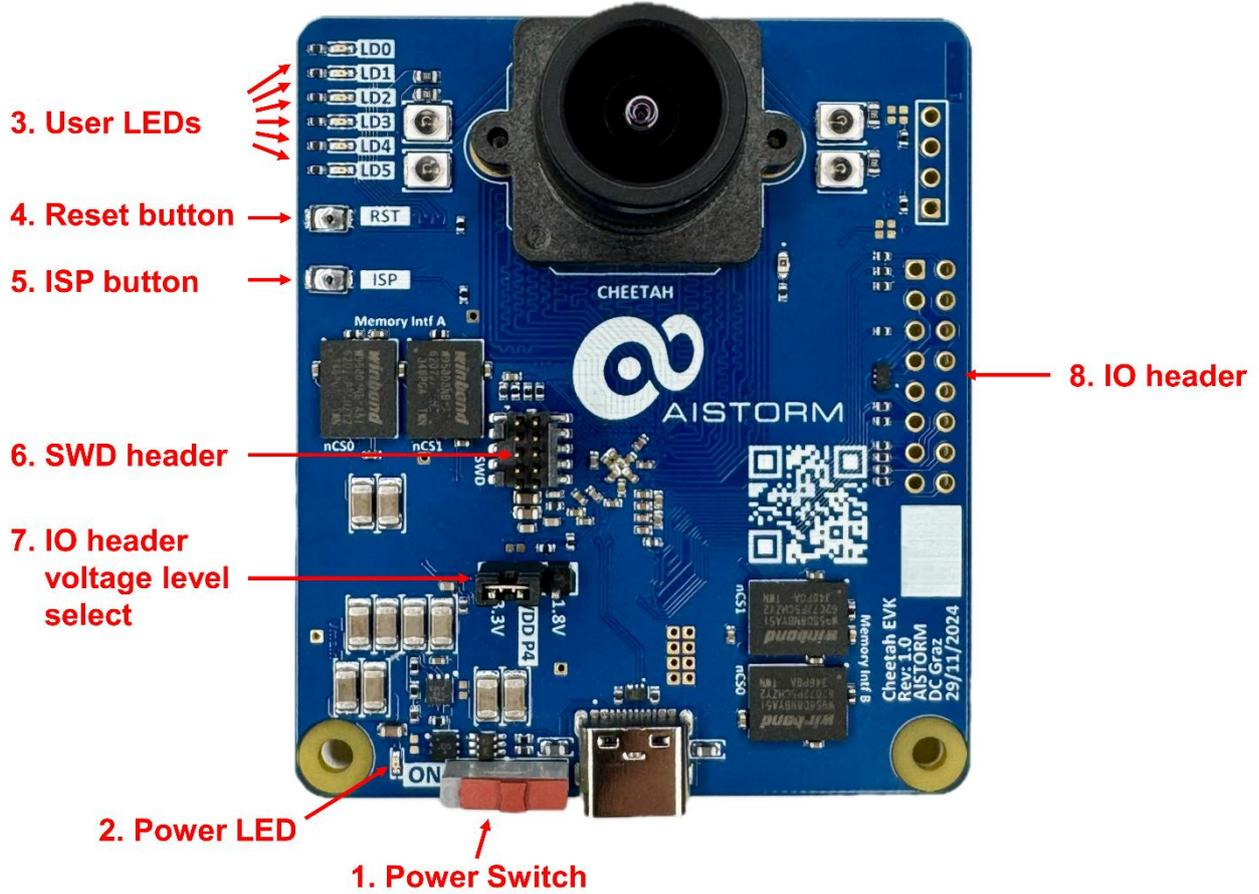
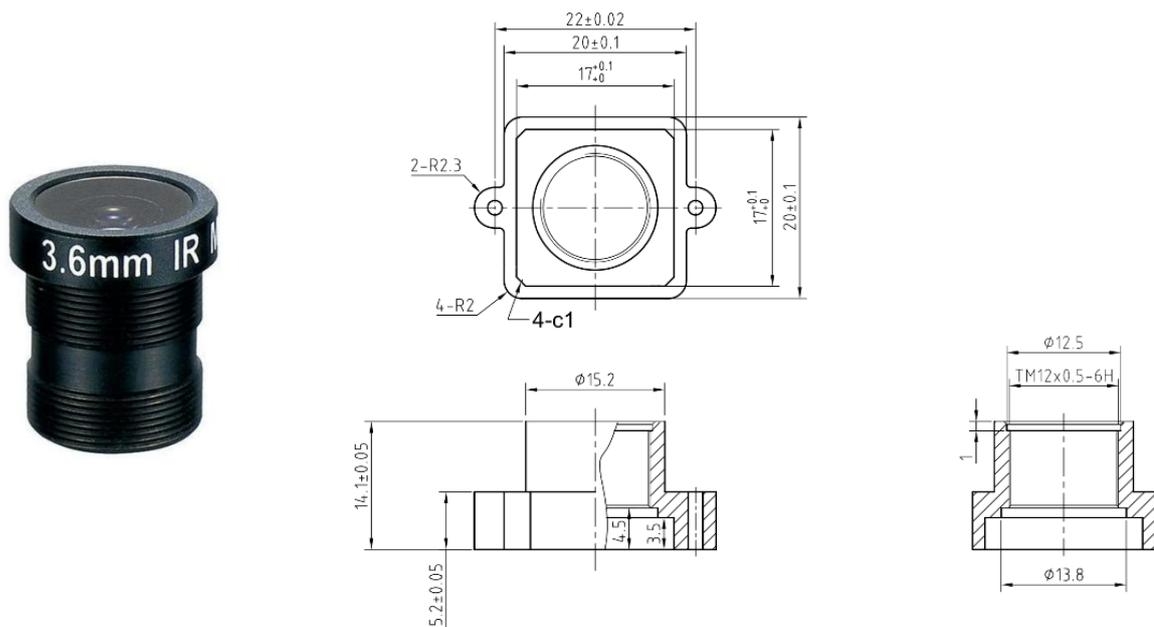

Figure 4: Cheetah Evaluation Board
Figure 7: Lens (left) and lens holder (right)
Description of the numbered Items from Figure 4:
The Cheetah Evaluation Kit is shipped with a ready-to-use S-mount (M12) lens installed as shown in Figure 4. The focus of the lens is kept in position upon delivery with a locknut and can be adjusted if needed. As displayed in Figure 5 the distance between the two lens holder mounting screw holes is 22 mm. The 3.6 mm effective focal length (EFL) of the installed lens in combination with the physical imager size of Cheetah (2.4 mm by 1.6 mm) results in an angle field of view (AFOV) of 25.0 ° vertically and 36.8 ° horizontally (43.4 ° diagonally). This lens can be replaced with any other suited S-mount (M12) lens to capture an image with e.g. a different AFOV for a specific use-case. Figure 7 shows the installed lens and the dimensions of the used lens holder.
- Cheetah Evaluation Kit (see Figure 4)